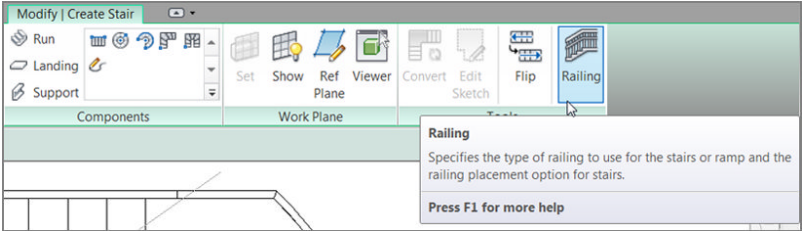

FIGURE 10.10: Click the Railing button.
1. On the Modify | Create Stair tab in Sketch Mode, click the Railing button, as shown in Figure 10.10.